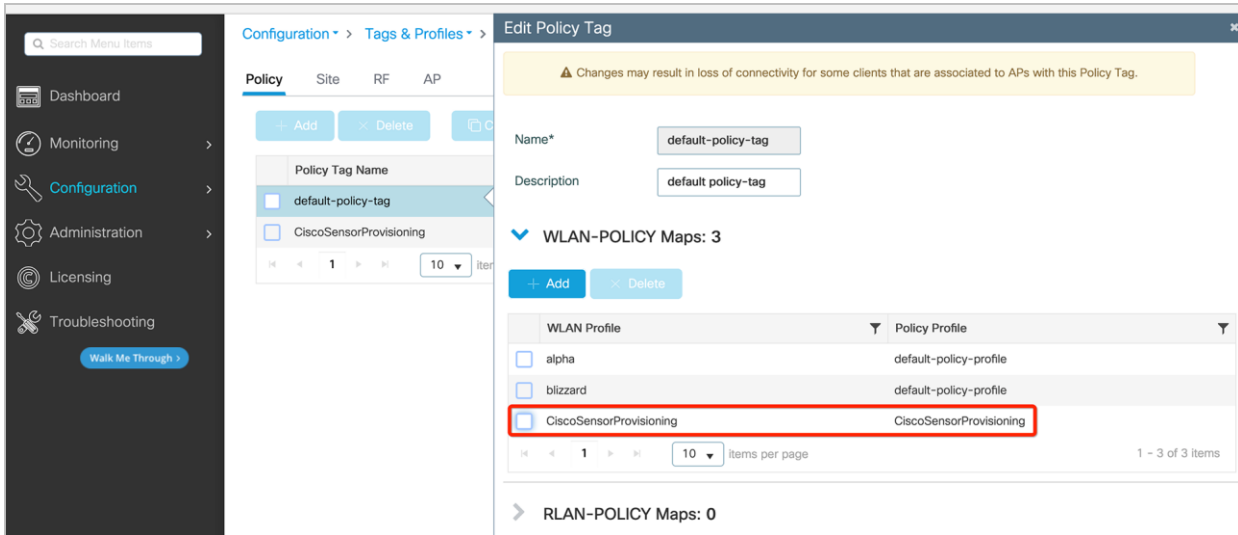

Figure 18.
3. Add the policy tag to the WLC by going to Configuration > Tags and Profiles > Tags, edit current Policy Tag which is used for other SSIDs, add CiscoSensorProvisioning WLAN Profile with CiscoSensorProvisioning Policy Profile (**Figure 18**).